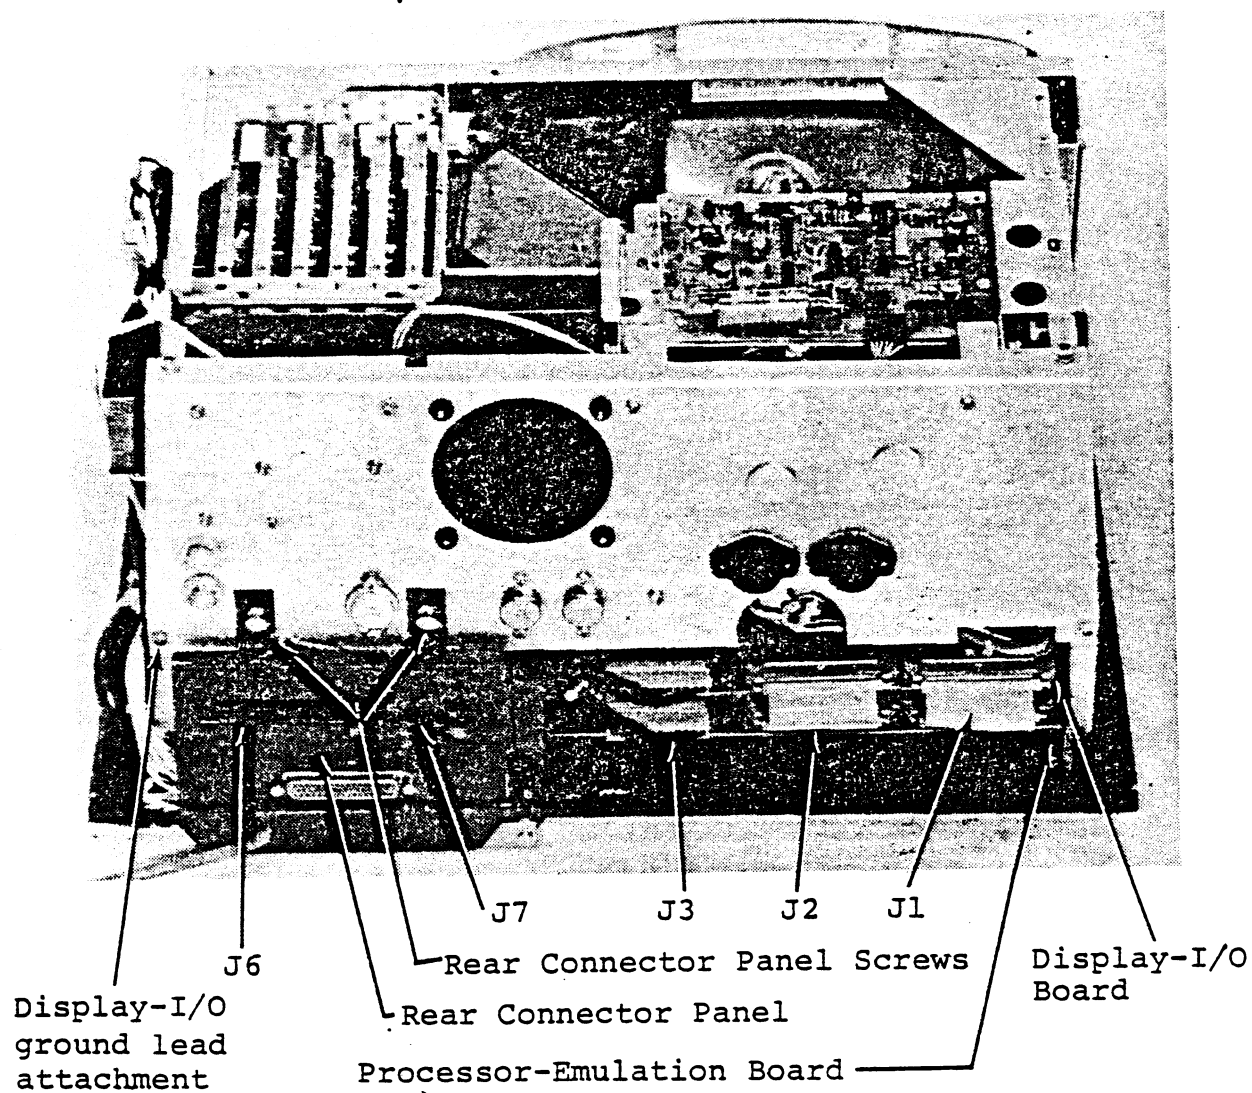

Figure 5-3. Processor/Emulation Board
- b. At the left rear of the processor at the rear connector panel (Figure 5-3) disconnect I/O cables from J1, J6, and J7.
- f. Remove two ground leads to display-I/O board from the lower left mounting screw of power panel (Figure 5-3).